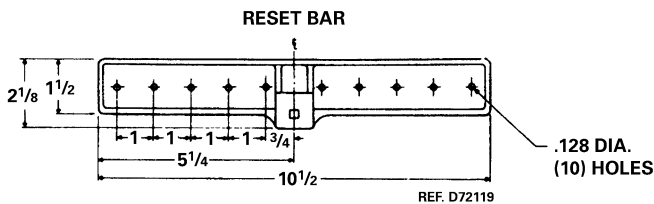
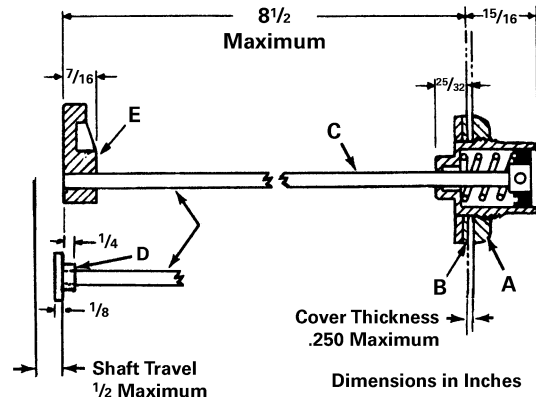

Figure 2
Figure 3
The overload reset operator is a mechanical operator for installation on an enclosure cover or panel to actuate overload resetters, push buttons or other devices inside the enclosure. The single reset operator shaft is capped with a $\frac{7}{8}$ inch diameter insulated pad. The reset bar (Figure 2) of the multi-unit reset operator may be attached to the operator shaft of either operator and the reset bar can be cut to suit the application.
3. Determine the required dimensions for the reset bar (Figure 2), if applicable, and the shaft (Figure 3). Cut the shaft and bar as required. Install the reset pad D or the reset bar E on the shaft.
6. Secure the assembly in position with lock nut A. If a legend plate (optional) is used, install the legend plate before installing lock nut A. Note that the .250 inch maximum cover thickness shown in Figure 3 should include legend plate thickness.